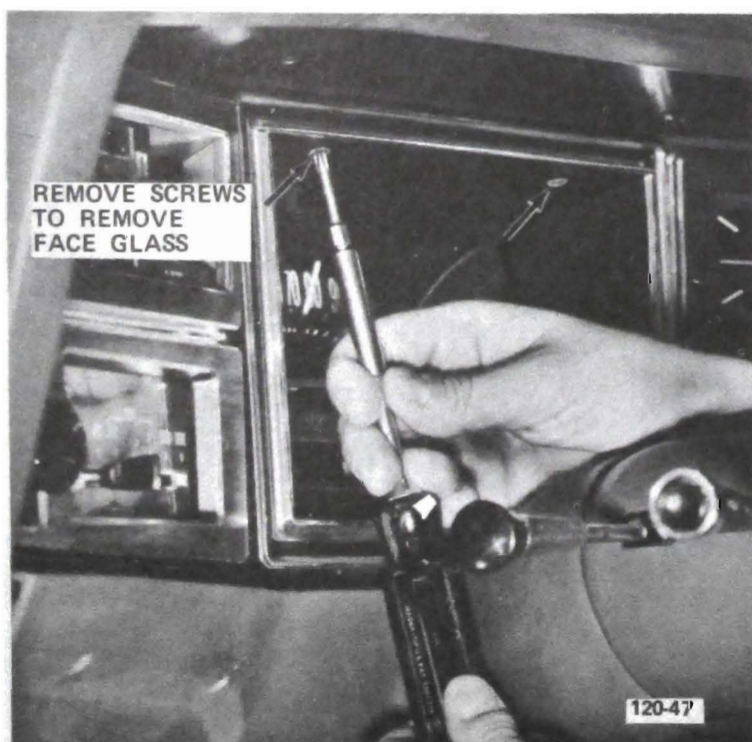

Figure 120-42 Speedo Glass Retaining Screws
3. Remove two screws on speedo face glass. See Figure 120-42.
3. Remove speedo face glass, as in Figures 120-42 and 120-43.